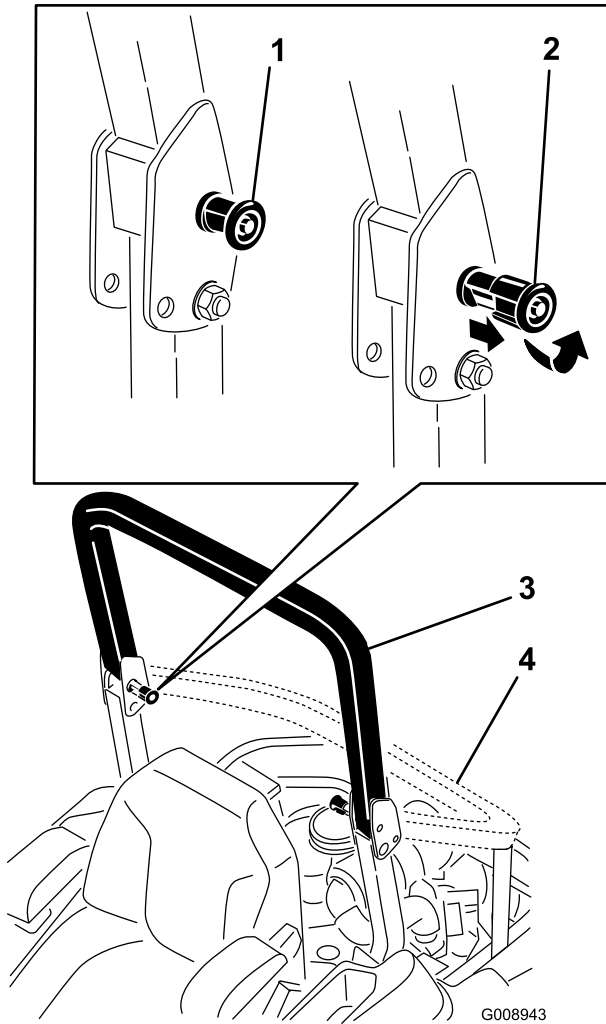

Figure 7
2. Pull both knobs out and rotate them 90° so they are not engaged (Figure 7).
3. Lower the roll bar to the down position (Figure 7).
4. To raise the roll bar, raise the roll bar to the operate position, rotate the knobs so they move partially into the grooves (Figure 7).
5. Raise the roll bar to the full upright position while pushing on the upper roll bar and the pins will snap into position when the holes align with the pins (Figure 7). Push on the roll bar and ensure that both pins are engaged.